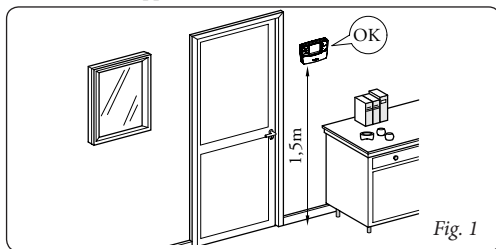

Fig. 1
- 3). Install the CRONO 7 away from heat sources and in a suitable position to detect the room temperature correctly (fig. 1 and 2).